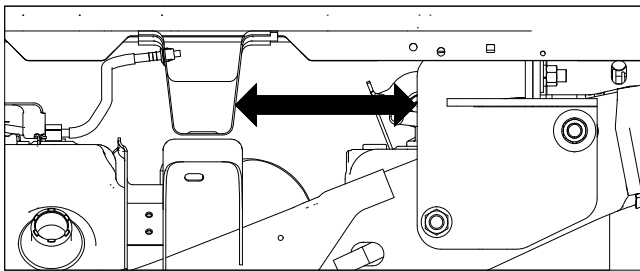

Figure I1.
2. **Square the hitch.** With a tape measure, check the distance between the Turnoverball hitch and the nearest bed cross member. The distance between the hitch and the cross member should be consistent on the driver side and the passenger side of the hitch, see Figure I1.